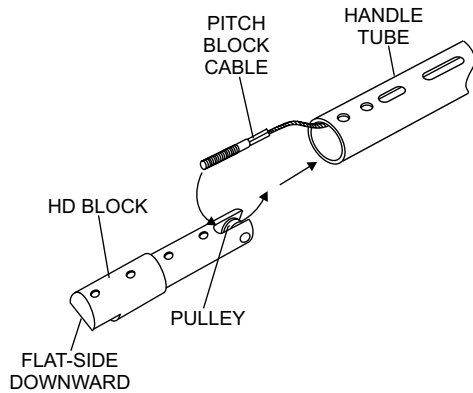

Figure 4. Threading Cable Through Pulley
- With pitch block cable pulled through handle tube, thread cable around pulley as shown in Figure 4. The HD block should be positioned with the flat side downward. Keep the pulley from coming loose by holding pin in place with your thumb.
- Pull cable end and loop back toward handle and insert back into handle tube as shown in Figure 4.